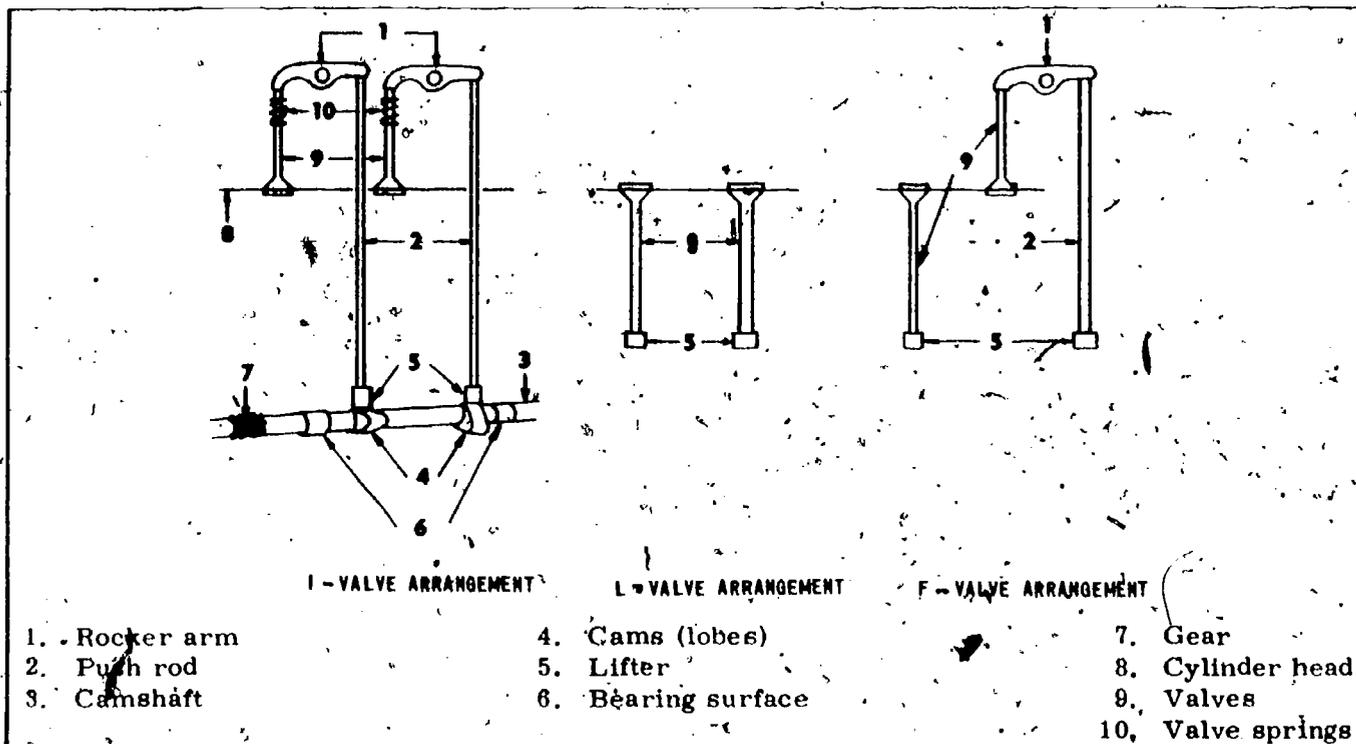

Fig 2-7. Valve arrangements.
- (e) Valve mechanism (fig 2-7). The valves and other parts of the valve mechanism open and close ports for the intake of air or air-fuel mixture and for removal of the exhaust gases. The valve lifter, which is moved by the camshaft lobe, forces the push rod which forces one end of the rocker arm, which in turn pivots and forces the valve open. As soon as the camshaft relieves the pressure, the valve spring pulls the mushroom poppet valve closed and gravity or spring tension forces the other parts back to their original position. These precision machined valves must be able to withstand the effects of extreme temperature of combustion and resist wear. The valve mechanisms of some engines do not require all the parts discussed here, but they perform the same basic job of opening and closing the ports to the combustion chamber. The valve arrangement will differ with the different makes and models, but the three basic arrangements are: (1) Valve in head, overhead, or I-arrangement, (2) valve in block, flat head, or L-arrangement, (3) one valve in head and one valve in block or F-arrangement. Some 2-stroke-cycle engines use the piston to open and close ports in the cylinder wall and do not have valves.